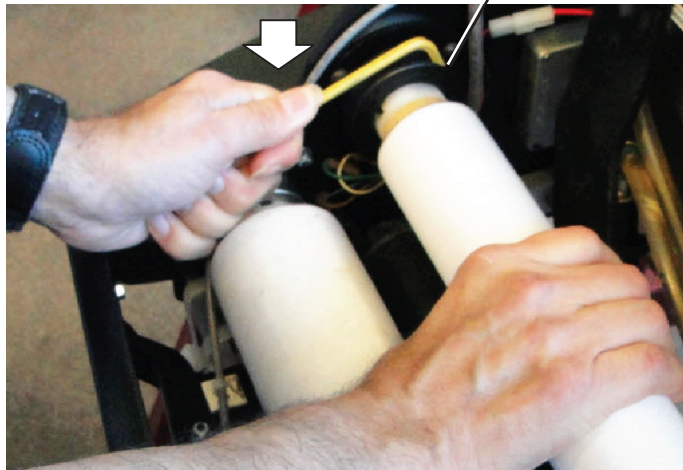

Figure 3
5. Looking at the duster clutch from the inside of the machine (Refer to Figure 3), hold the supply roll of cloth to keep the threaded inner drive post of the clutch stationary during this adjustment. Use the 3/16" Allen wrench as a lever to rotate the outer clutch collar counter-clockwise in steps of 1/8 turn (45 degrees). Then retighten the collar bolt with the 3/16" Allen wrench to hold this setting.